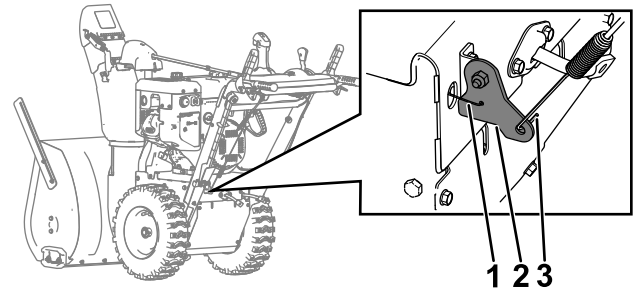

Figure 5
6. In the rear of the machine, unhook the traction cable from the traction-cable bracket (Figure 5).